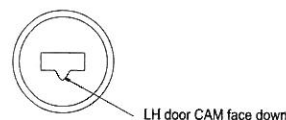

Figure 3
B. For LH door, to use the flat head screwdriver to turn the breach of CAM face down. (Figure 3)